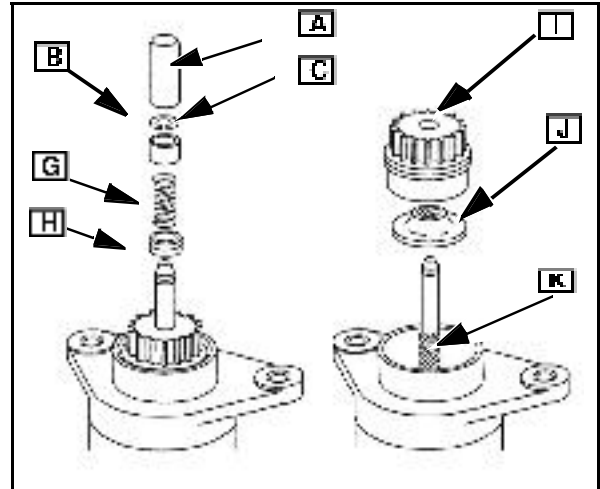
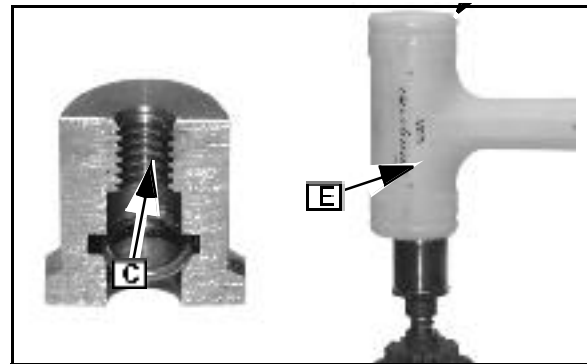

Fig. 39
Fig. 41
1. Remove dust cover (A).
2. Push down on upper spring retainer (B) to expose snap ring ([C] Fig. 39) on shaft.
- Remove upper spring retainer (B), return spring (G), lower retainer (H), pinion gear (I), and starter clutch ([J] Fig. 39).
Correct any sticking between pinion gear and starter shaft helix ([K] Fig. 39).
Refer to Fig. 39
- Install the pinion gear (I) with the chamfered teeth up.
- Place starter clutch (J) on starter shaft. Turn clutch until it drops into place.
- Assemble lower spring retainer (H) with open end up.
- Install return spring (G), and install upper spring retainer (B) with open end up.
- Place new retaining ring (C) inside two halves of tool #19467 (D), and slide tool sleeve down over two halves, Fig. 41.
- Place tool #19467 over armature and strike tool with hammer (L) to drive ring into groove.
- Pull up on upper spring retainer (B) until retaining ring snaps into groove in upper spring retainer, Fig. 39.
- Install rubber dust cover (A). Push dust cover down until it snaps into groove in lower spring retainer (H).